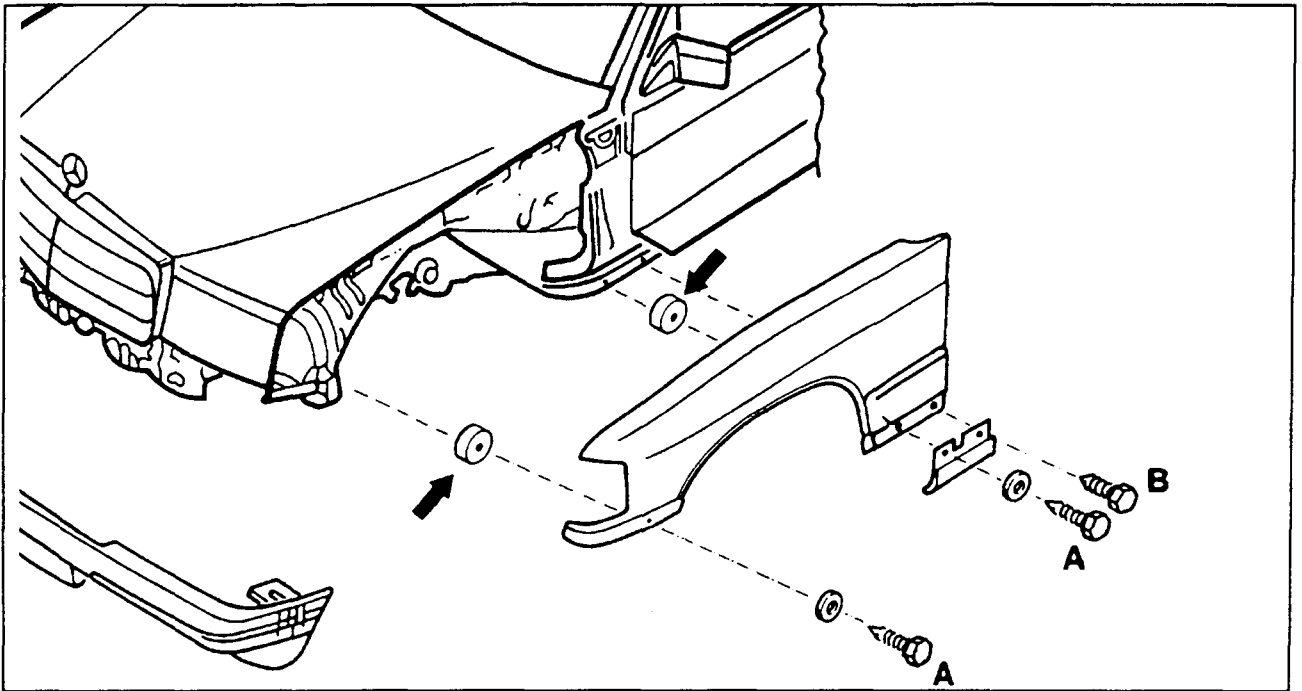

Figure 17
10. Press sides of bumper downward and unscrew bolts (A and B, Figure 17). Position spacers (arrows) between fender and body as shown. Ensure that the holes align for easier installation.